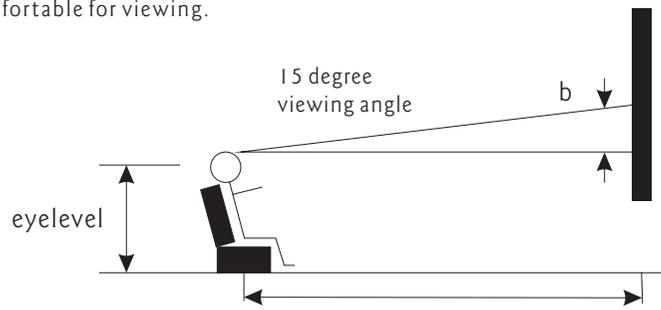

Fig 3a
- 1) the distance between wall and couch (Fig 3a).
- 2) the distance of eyelevel from ground level plus the distance measured from eyelevel of a person sitting on couch with viewing angle of  $15^\circ$  (Fig 3a).